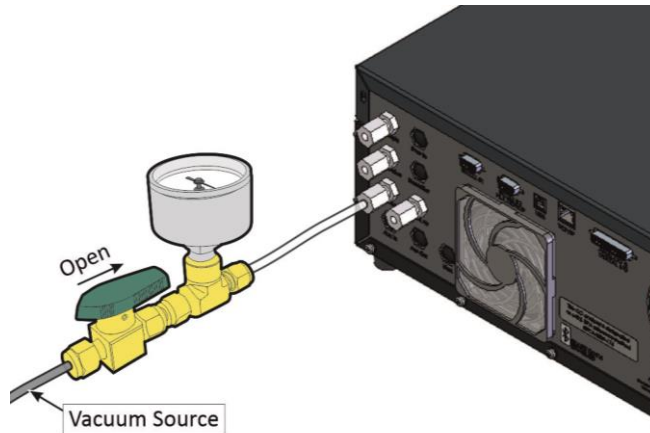

Figure 136 – Connect Vacuum Source
4. Refer to Figure 136. Connect a vacuum source to the shut off valve ensuring the shut off valve is in the open position.